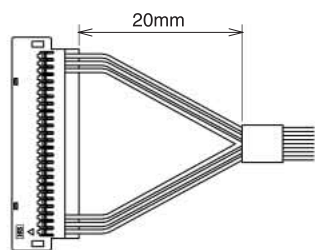

Fig. 3-1
- * To avoid wire damage or termination faults bundling of the wires should be at the distance of 20 mm min. from the socket (Fig. 3-1)